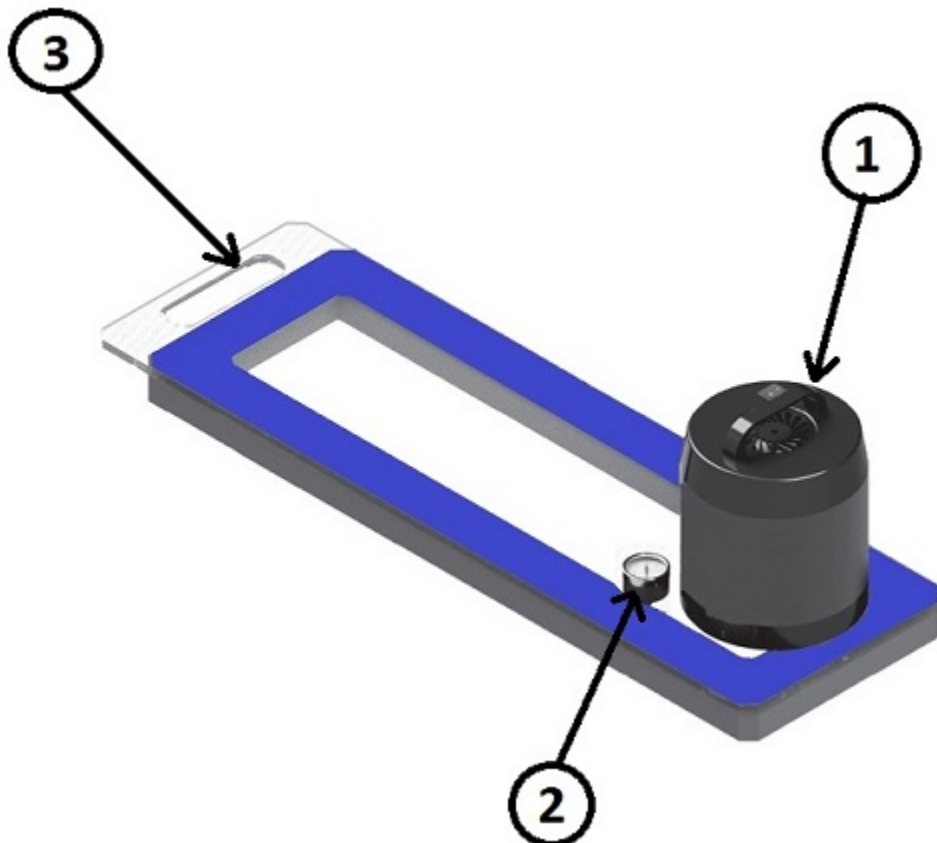

Figure 5.1
- d. To gain proper suction, the Vac-Plate needs to be pressed onto the liner using both provided handles (Items 1 & 3, Figure 5.1).
- e. The negative pressure being applied to the seam can be read on the provided Manometer/Pressure Gauge (Item 2, Figure 5.1).
A weld is considered as having passed when the negative pressure read on the Vacuum Gauge (Item 2, Figure 5.1) builds quickly and holds throughout the test. If the seam fails to hold vacuum and shows bubbles, the seam appears to be bad.